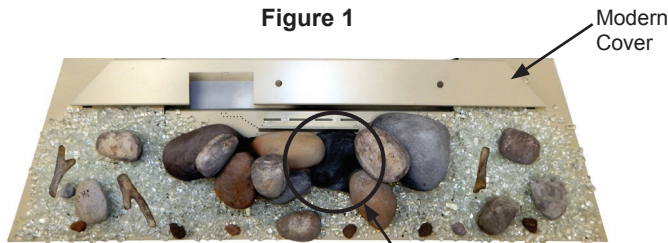

Figure 2
5. Place decorative rocks and sticks in areas on the burner cover or modern cover. Do not place them over any burner ports. **Figure 2** shows the location on rock base (A) that should remain open.